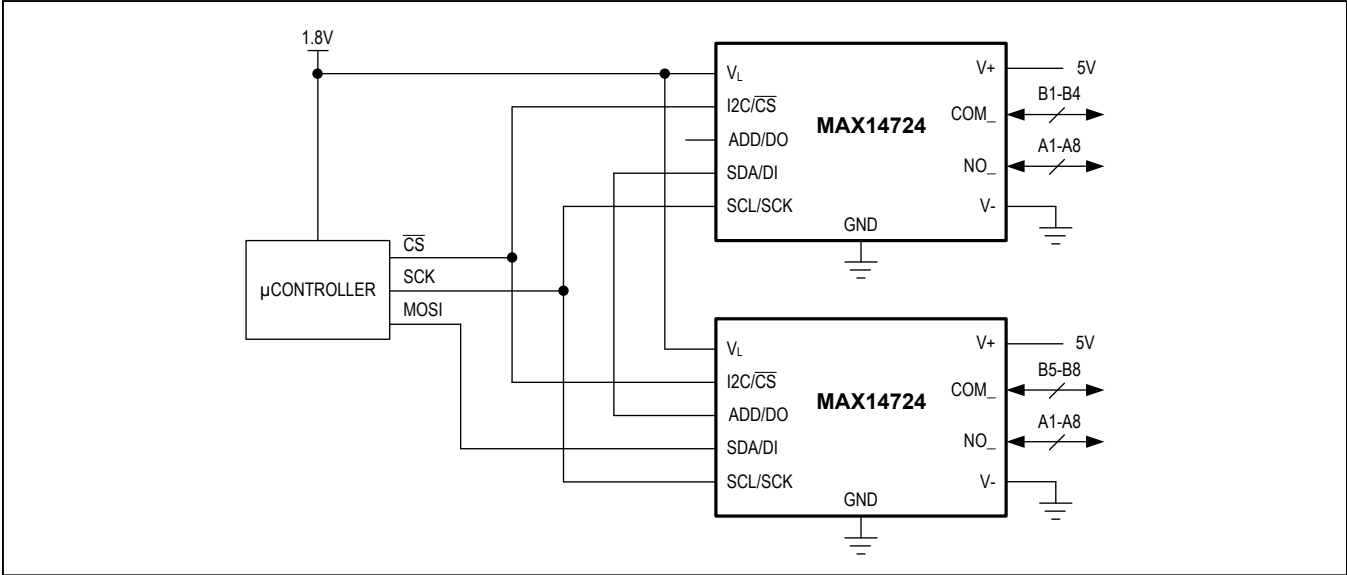

Figure 21. SPI Daisy-Chain 8:8 MUX
In SPI mode, the device operates a shift register designed to work with common serial interfaces. The bits are shifted through so that a large serial chain can be made to minimize pins needed for a system with multiple devices (see Figure 21). This shift register is also designed to be compatible with common microcontroller SPI-type interfaces. The switches in the MAX14724 are all transitioned simultaneously. To update the switches in SPI mode, the user must shift in a bit with the desired state of each switch according to the data format listed in Table 4. The switches are updated at the rising edge of CS, with the last 32 bits of data shifted in only if the number of bits clocked in is greater than or equal to the number of switches (32). The DO pin is the serial output of the shift register.